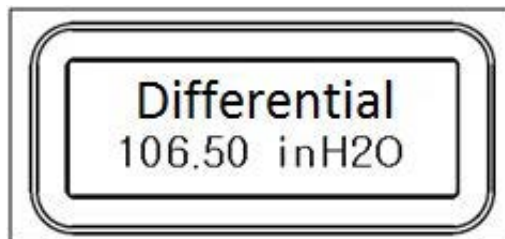

Figure 19 – Basic Display with Process Variable Format
Figure 19 illustrates the basic display format with Process Variable (PV).